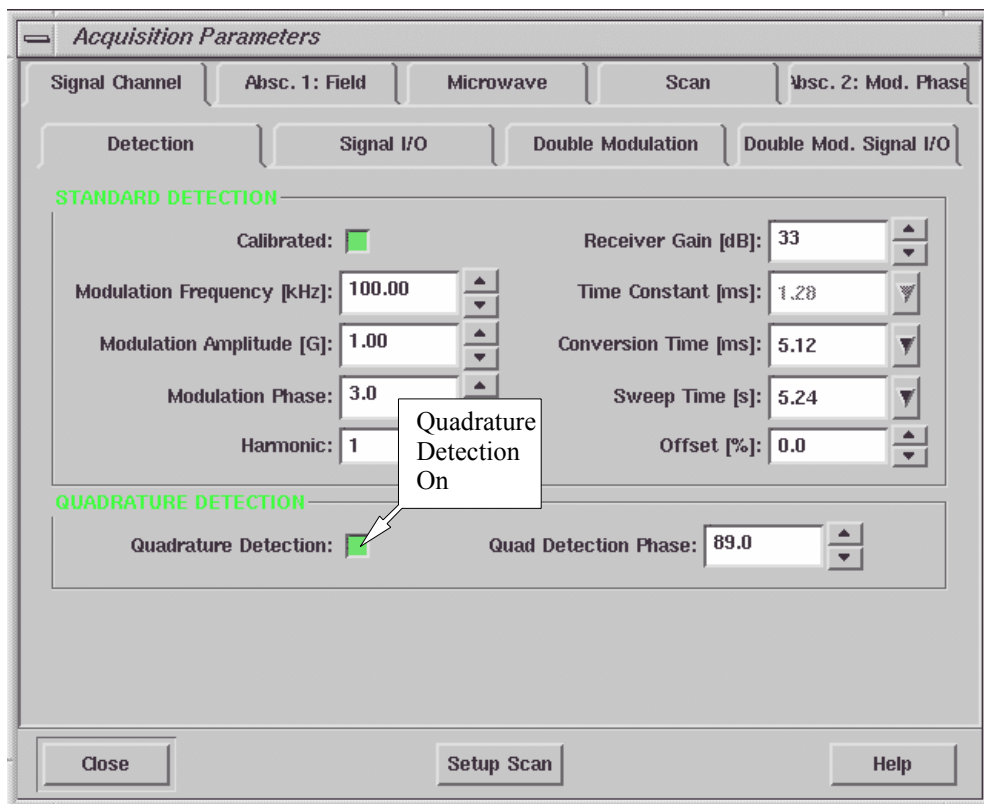

Figure 14-6 The Quadrature Detection button.
2. **Set up for quadrature detection.** Open the Parameter dialog box and select the Signal Channel folder. Click the Detection tab and press the Quadrature Detection button. (See Figure 14-6.) Press the Activate button.